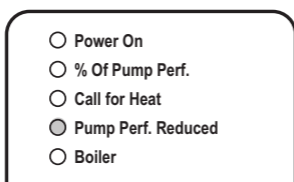

Figure 13 - Control Lights (Pump Performance Reduced)
- Pump Performance Reduced LED is flashing (Fig. 13):